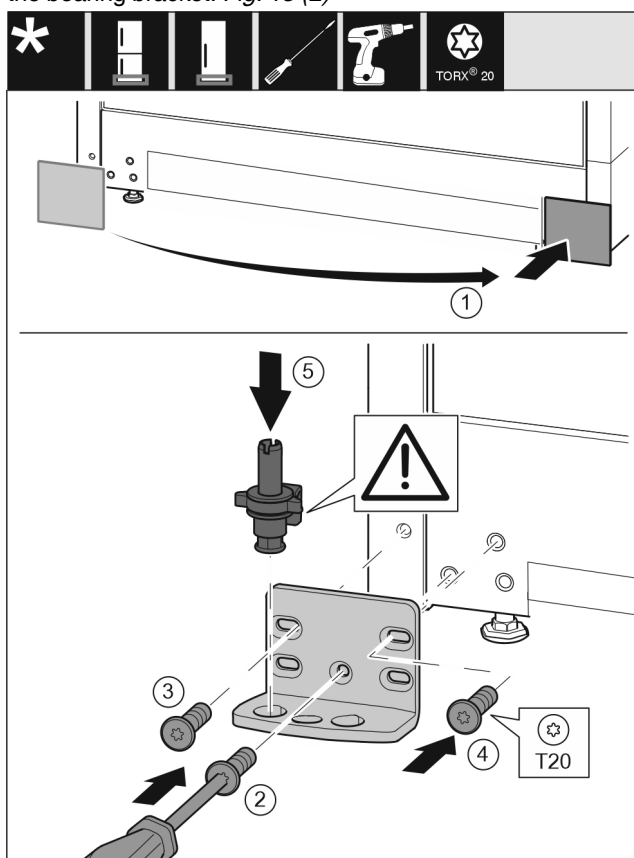

Fig. 16
- Remove the cover and attach it on the other side. Fig. 16 (1)
- Place the bearing bracket on the other side and screw it in using the T20 screwdriver. Start with screw 2 at the bottom in the middle. Fig. 16 (2)
- Screw in screws 3 and 4. Fig. 16 (3,4)
- Insert the bearing pin completely. Make sure that the latching lug is pointing to the rear. Fig. 16 (5)